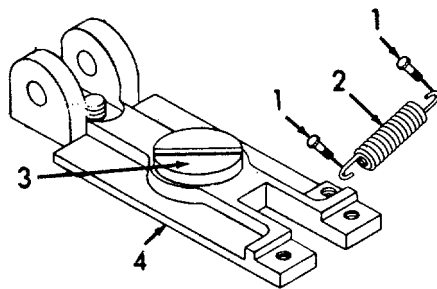

Figure 6-152. Adjustment and Shifter Levers, Removal.
- (8) Refer to Figure 6-152. Remove two screws (1) and spring (2).
- (9) Remove screw (3) and bed (4).